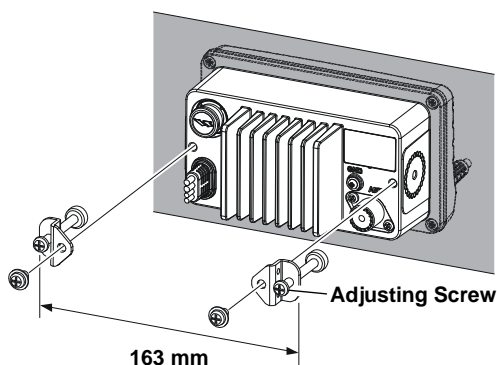

FIGURE 2
4. Referring to Figure 2, fasten the brackets to the rear panel of the transceiver.